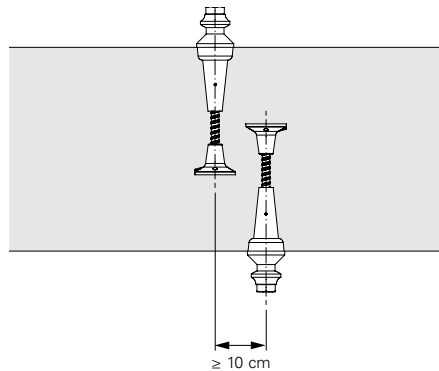

Fig. B1.02
- If $h_1 + h_2 < d$, the anchor positions must be horizontally or vertically offset. (Fig. B1.02 + B1.03)